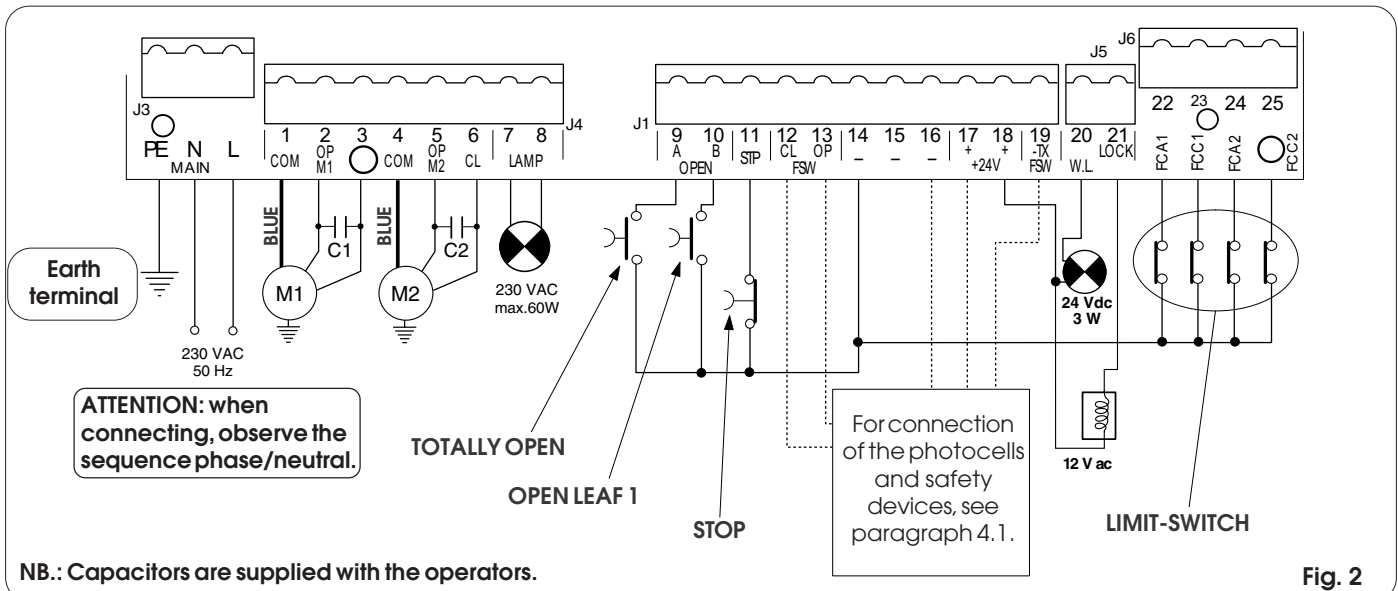

Fig. 2
- Connect the earth cable to the appropriate terminal on the J3 connector of the equipment (see fig.2).
4.2. Terminal board J3 - Power supply (fig. 2)
4.3. Terminal board J4 - Motors and flashing lamp (fig. 2)
4.4. Terminal board J1 - Accessories (fig. 2)
4.5. Terminal board J5 - Indicator-light and Electric lock (fig.2)
4.7. Terminal board J6 - Limit-switches and/or encoder(fig.2)